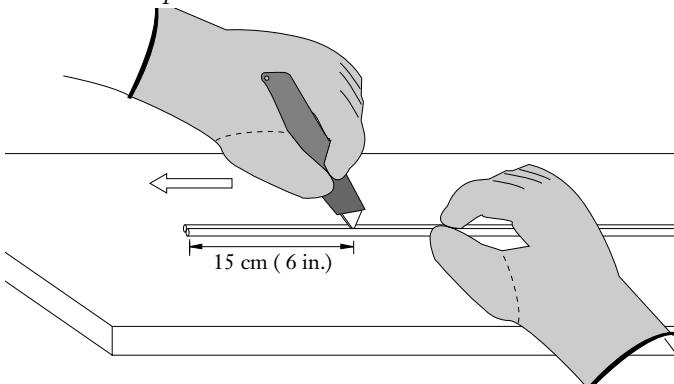

Figure 2
- Cut the web to the end of the cable (Figure 2).